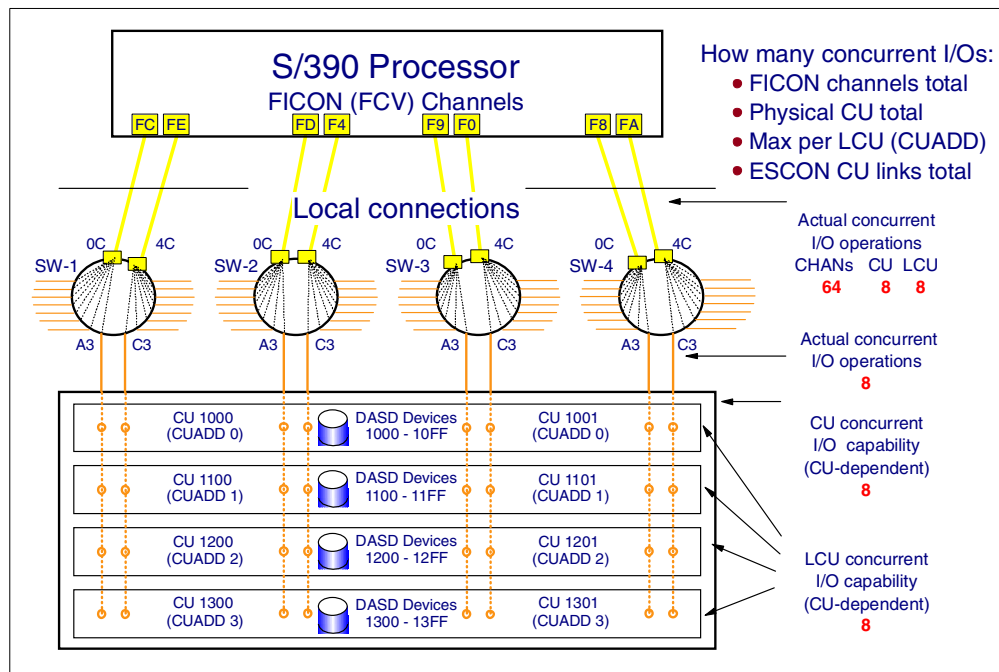

Figure 73. FICON (FCV mode) channel configuration - 8 channel paths 4 LCUs
The FICON (FCV mode) configuration shown in Figure 73 has the following I/O concurrency:
- Eight S/390 FICON (FCV mode) channels are used and these in will support 64 concurrent I/O operations in total. 8 of these concurrent I/O operations will be to the any of the defined (and configured) logical control units shown in Figure 73, and 56 of the 64 possible concurrent I/O operations will be to other control units.
Figure 74 shows the I/O definition support (IOCP statements) to support the I/O configuration shown in Figure 73 on page 96. There are eight FICON (FCV mode) channel paths defined to access each of the attached devices in each of the four logical control units, as the I/O device statement connects to both control unit statements that are used to define a logical control unit, and each control unit statement has four paths defined.